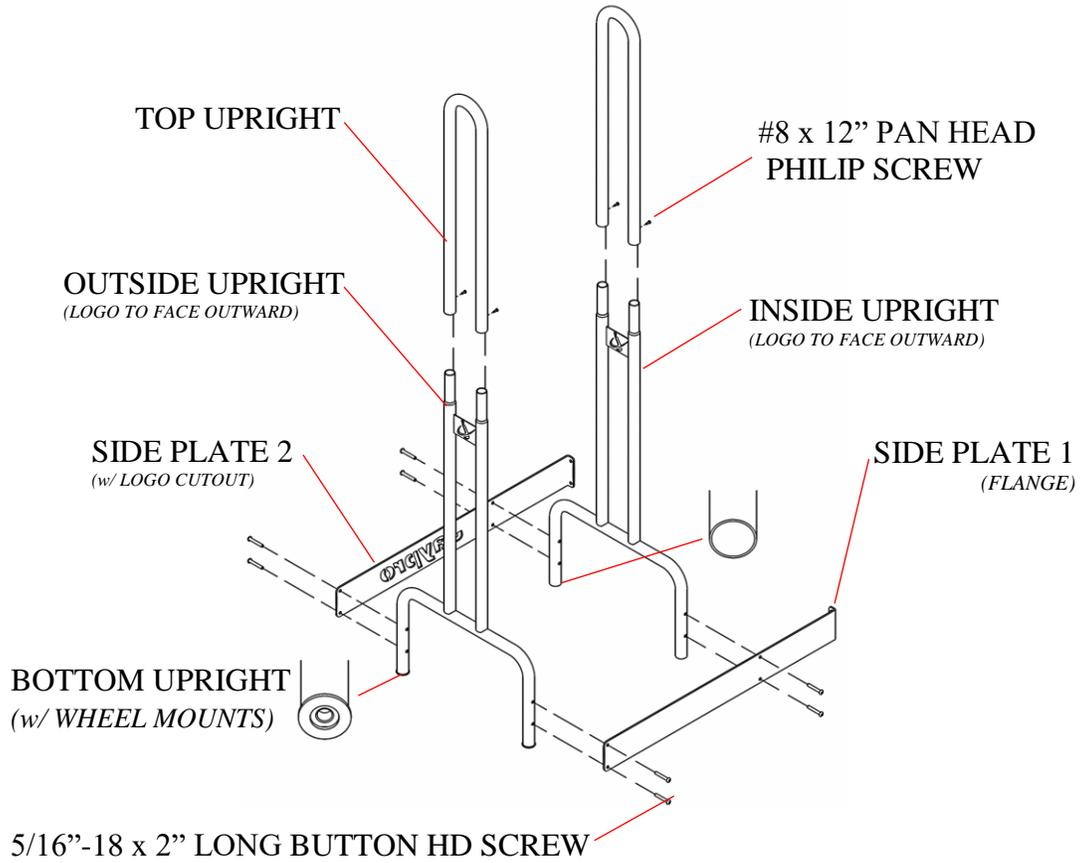

Figure 1
- 1) Assemble side plate 1 and side plate 2 onto two uprights in place using 5/16"-18 x 2" long button head screws (as shown in Figure 1). Ensure that both upright logo faces the same direction and both side plate flanges are on the same side.